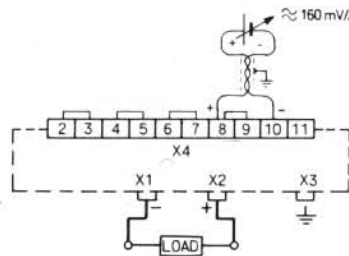

Fig. 8g. Remote current control with external voltage
- b. By connecting an adjustable voltage source of approx. 160 mV per ampere output current as shown in Fig. 8g. The voltage source must be able to consume 1 mA.